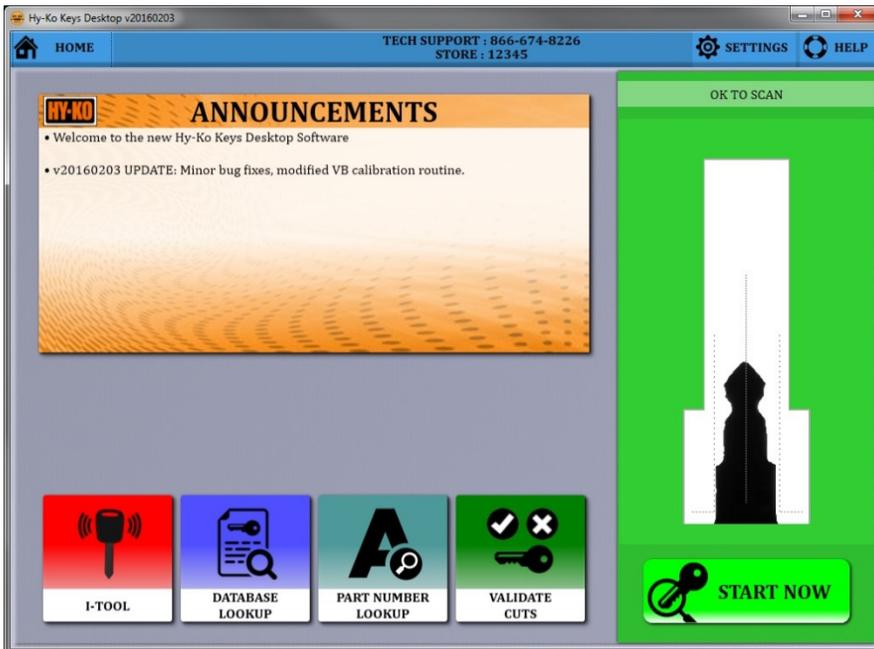

fig. 45
- Insert the key into the Vision Box (see fig. 46). You will see the image of the key blade in the scanning window on the right side of the screen (see fig. 45).